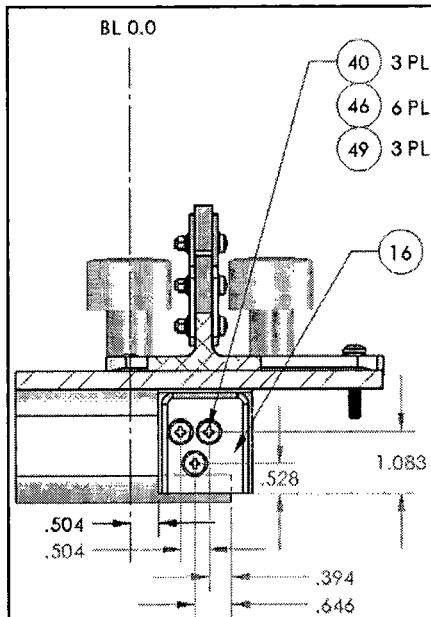

Figure 4.1: Bracket Installation
4.1 Layout and mark hole locations on Bracket (F/N 16) as shown in Figure 4.1. Drill holes.
Parts List for Figure 4.1: